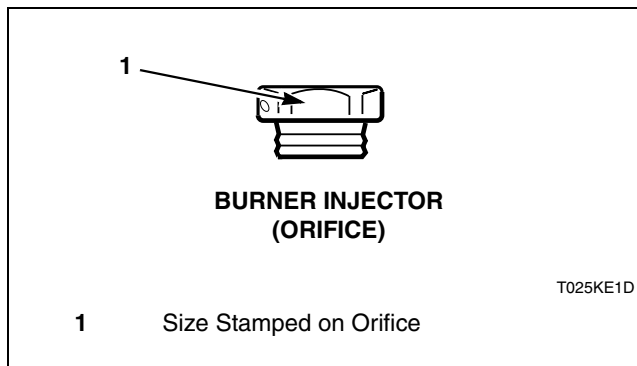

Figure 6
3. Install the new, correct injector(s) (orifices). Refer to *Figure 6*. Torque each to 9-10 Nm.